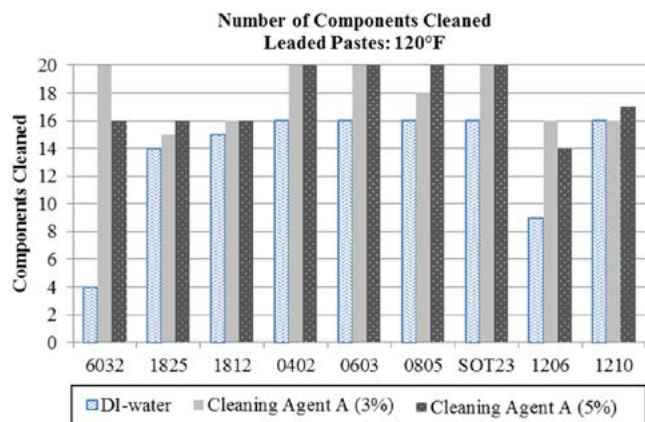

Figure 2: Results - Component Analysis
- Cleaning performance actually decreased with increasing temperature as evidenced underneath components 1825, 1812, 1210, 1206, and 0805 (Figures 2, 3, and 4).